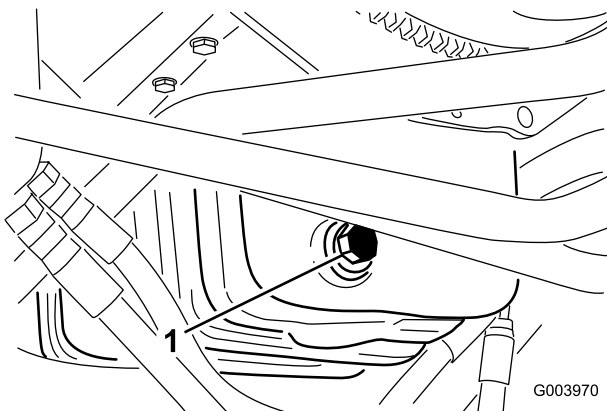

Figure 43
1. Remove the drain plug (Figure 43) and let the oil flow into a drain pan.